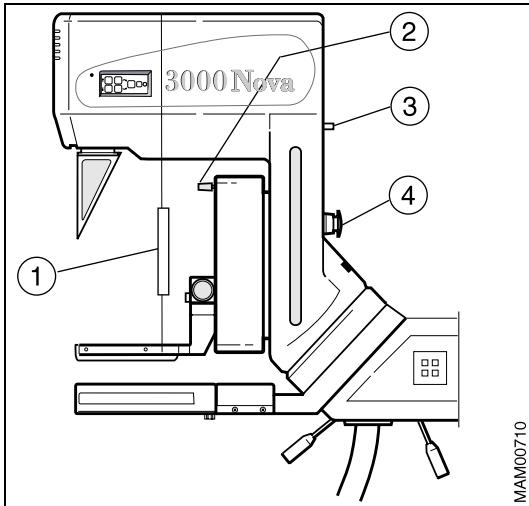

Fig. 1: Compression
- Attach the spring scale as shown in (1/Fig. 1 / p. 20) and be careful not to damage the compression plate during the following tests: Tolerance: ± 1 kp.
- Select any value (e.g. 6 kp) on the potentiometer (2/*Fig. 1 / p. 20*) and compress. Does the compression unit switch off at this setting?
- Select the maximum value (20 kp) with the potentiometer (2/*Fig. 1 / p. 20*). (20 kp). Does the unit switch off when it reaches the maximum value?
- Correct display (7/*Fig. 1 / p. 13*).